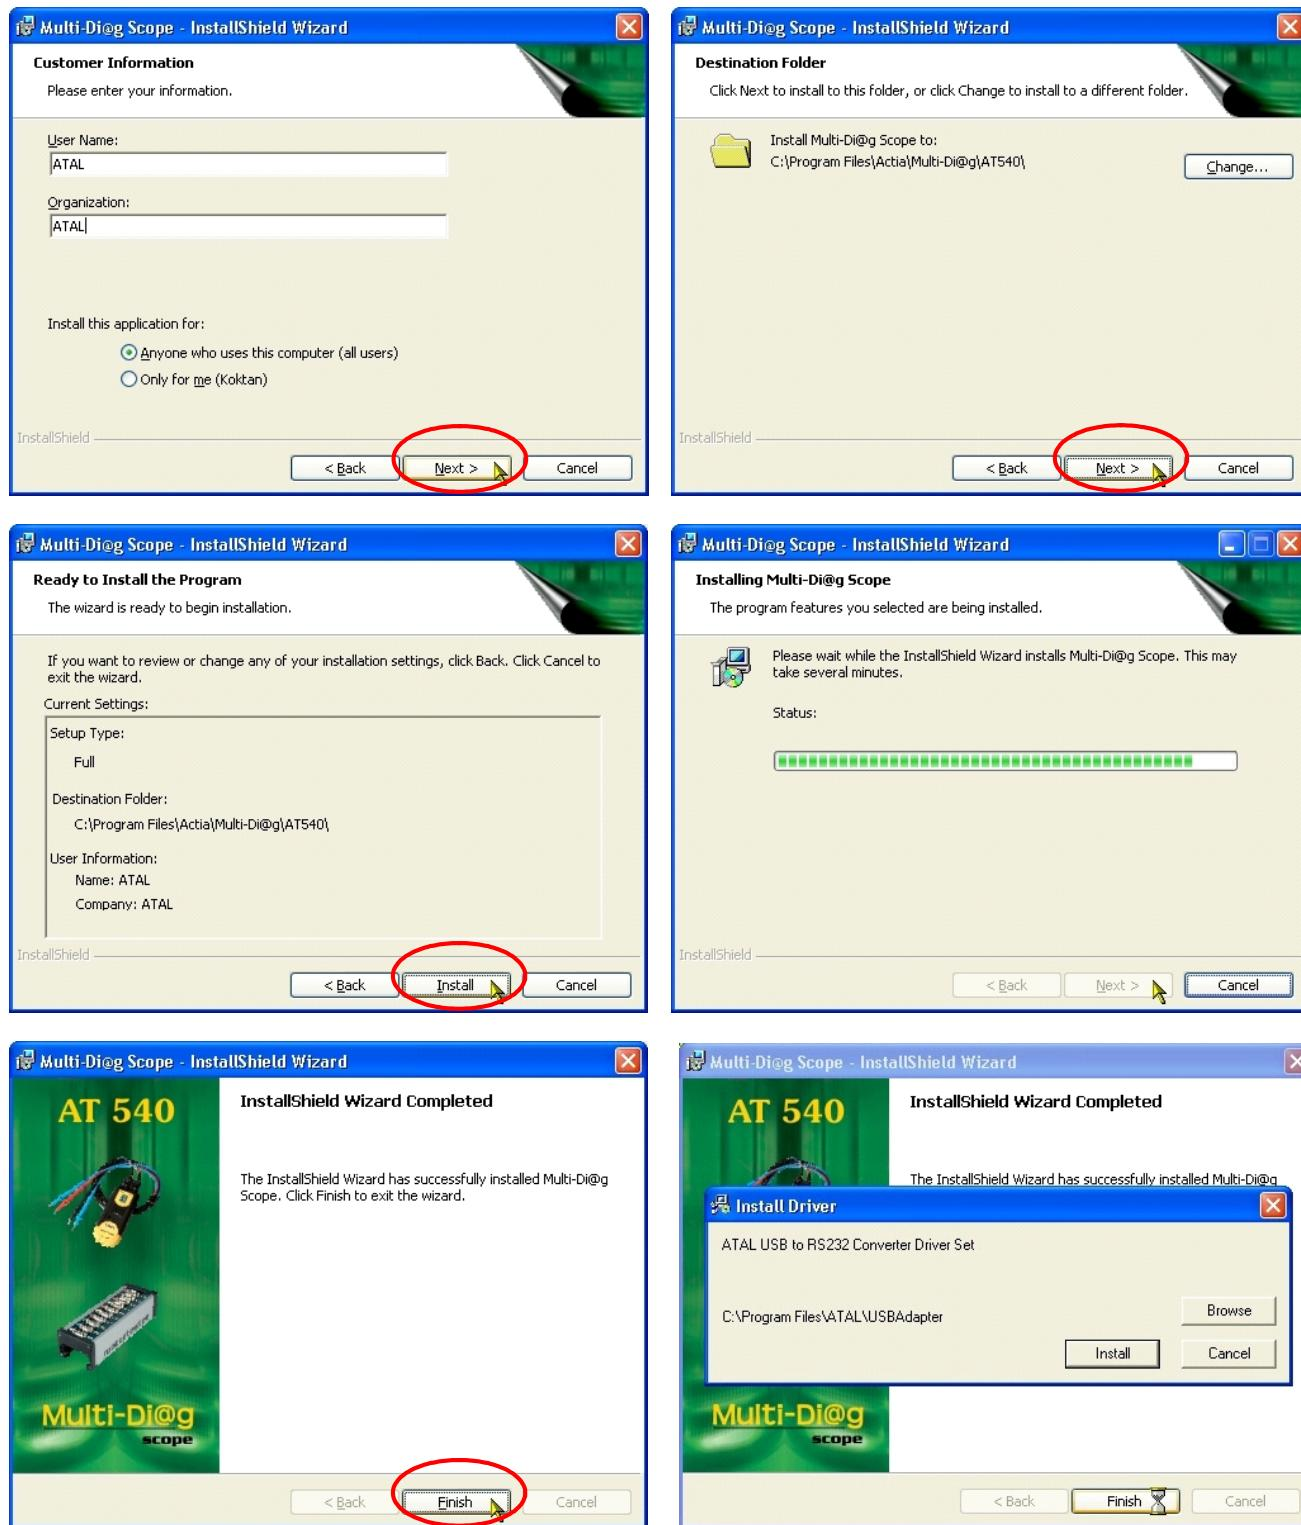

Fig. 43 – The installation may take several seconds. Click on "Finish" to complete the installation
**The installation may take several seconds.** Click on "Finish" to complete the installation (see Fig. 43).